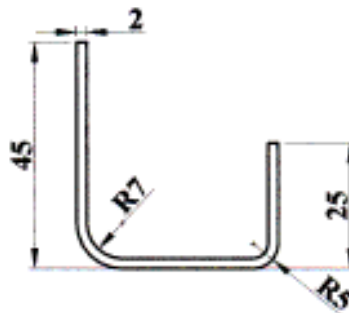

Fig. 4
4. a) Find out the developed length of the component shown in fig. 4.
- What are the methods of reducing spring back and which would be used for the component in fig. 4.
- Find out bending force required for job in fig. 4.